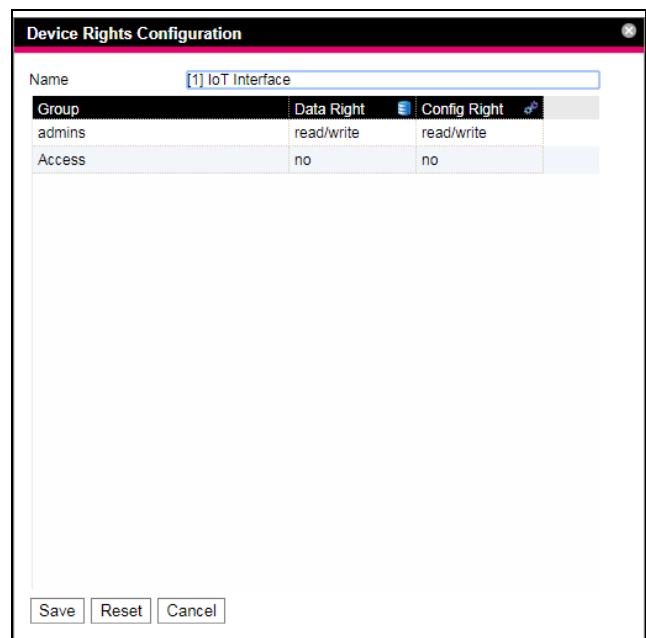

Fig. 32: "Device Rights Configuration" dialogue
The "Device Rights Configuration" dialogue opens (fig. 32).
The associated icons are displayed when a sensor is selected on the **Configuration** tab in the navigation area and this expanded down to the lowest level and also in the "Device Rights Configuration" dialogue (fig. 32, item 1). The icons emphasise the assignment to the "Data" and "Config" data types.